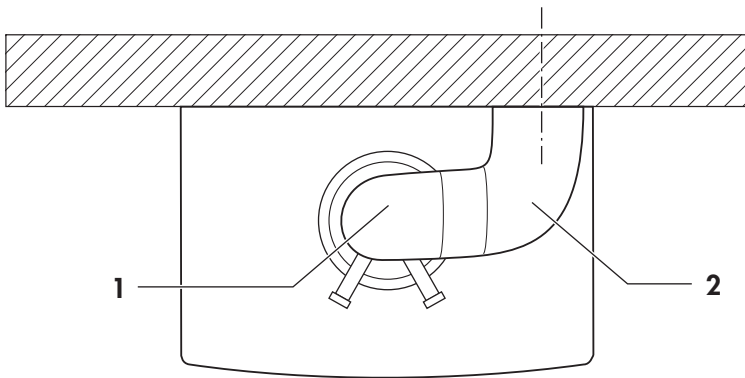

Fig. 6.1: Arrangement of 2 x 87° elbows - View from above
- When using 2 x 87° elbows follow fig. 6.1 to fig. 6.3 to avoid obstructions on outer wall.